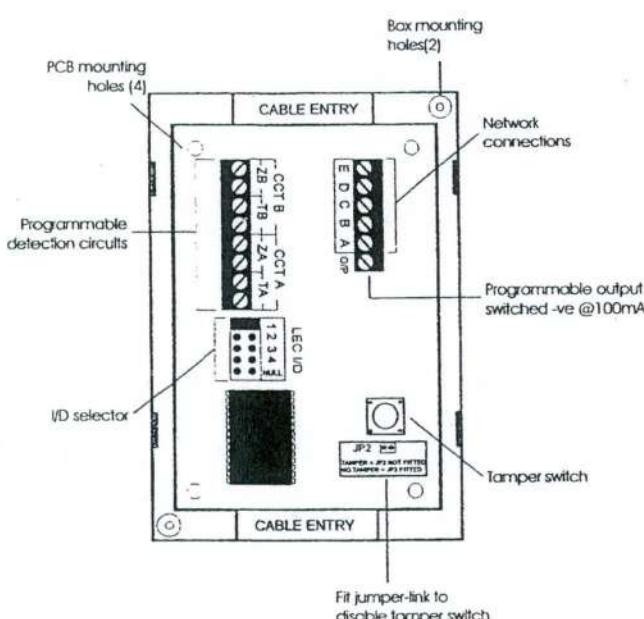

Figure 18. TS700 LEC Layout
2. If the LEC is being fitted inside the control panel remove the LEC PCB from its base and secure it to the base of the control panel using self adhesive feet. If required, the tamper switch can be disabled by fitting the jumper link across JP2, see Figure 18.